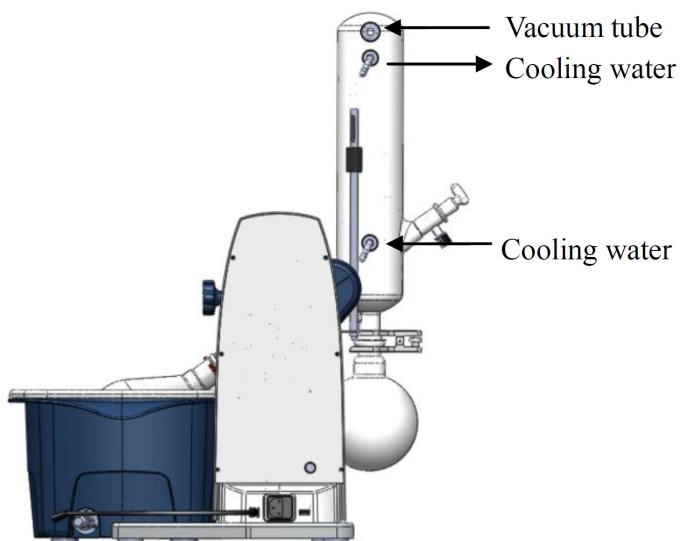

Figure 10
- Connecting tubes (Figure 10).